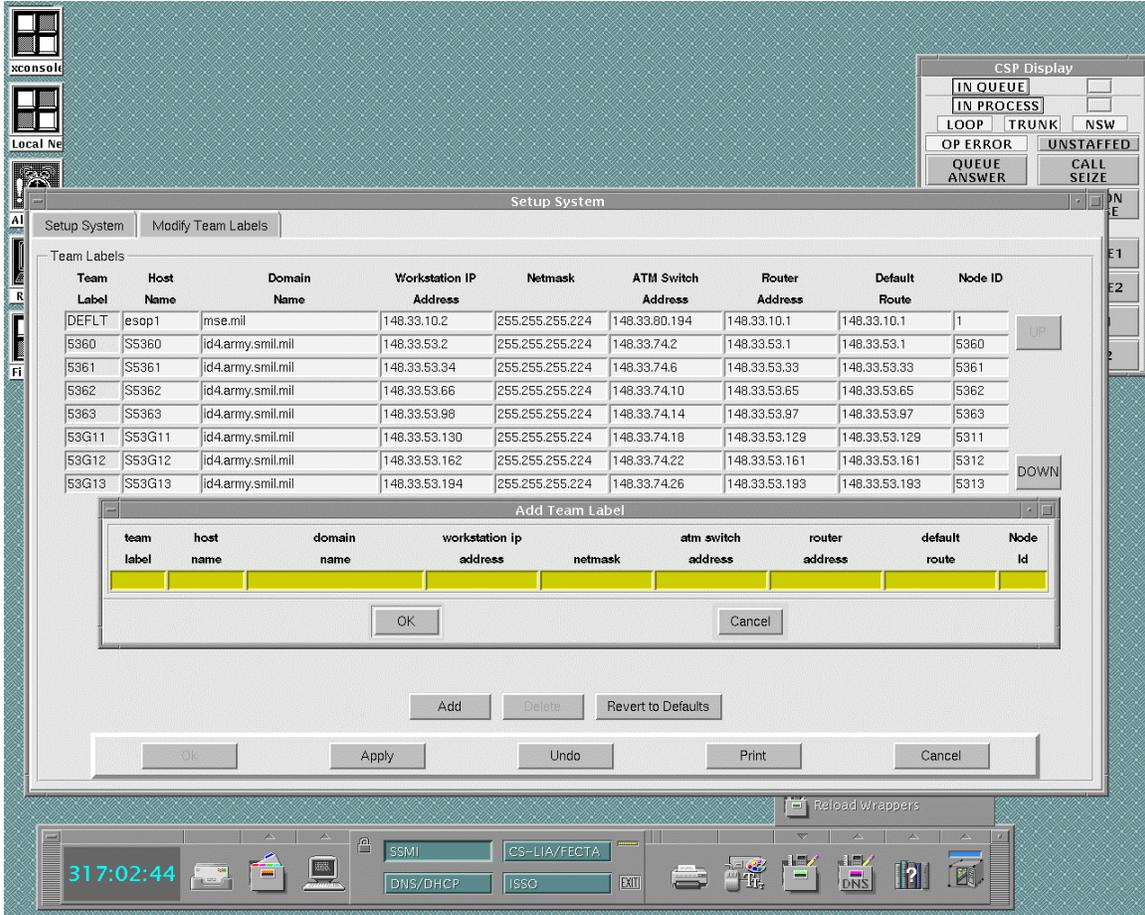

Figure 9 - Modify Team Labels & Add Team Label
50. On the **Setup System** window click on the **Modify Team Labels** tab. The window changes with the recorded team labels. See Figure 9.
51. Click on the Add button. The **Add Team Label** window appears. See Figure 9.